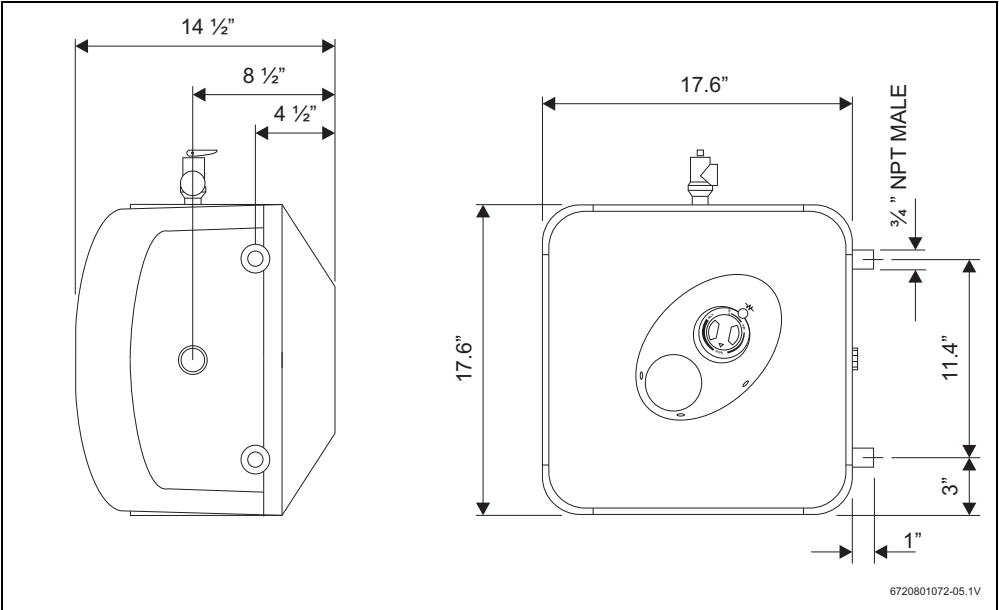

Fig. 7
- ▶ The supplied Temperature and Pressure Relief Valve will need to be installed on top. See location of T&P relief valve in → Fig. 7.